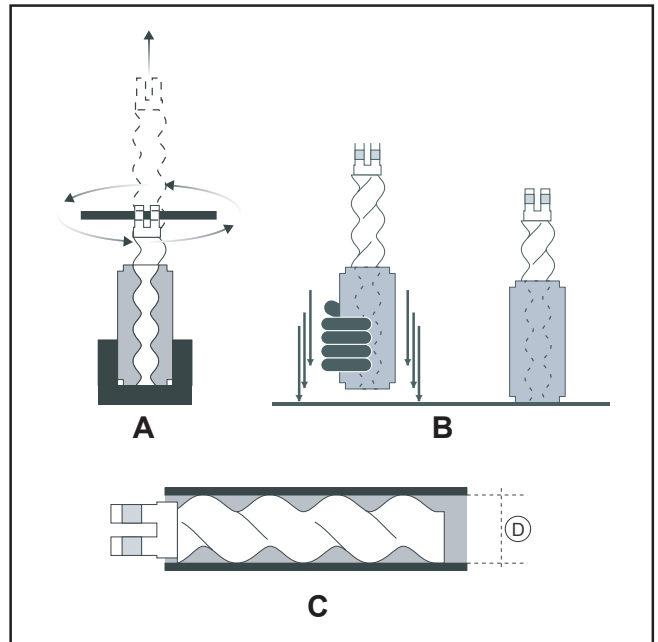

FIG. 83
- Put the pump in a vice and remove the auger (FIG. 83-REF. A).
- Tap the pump (stator + partially inserted auger) repeatedly against an object that will not damage the stator (e.g., a block of wood) (FIG. 83-REF. B).